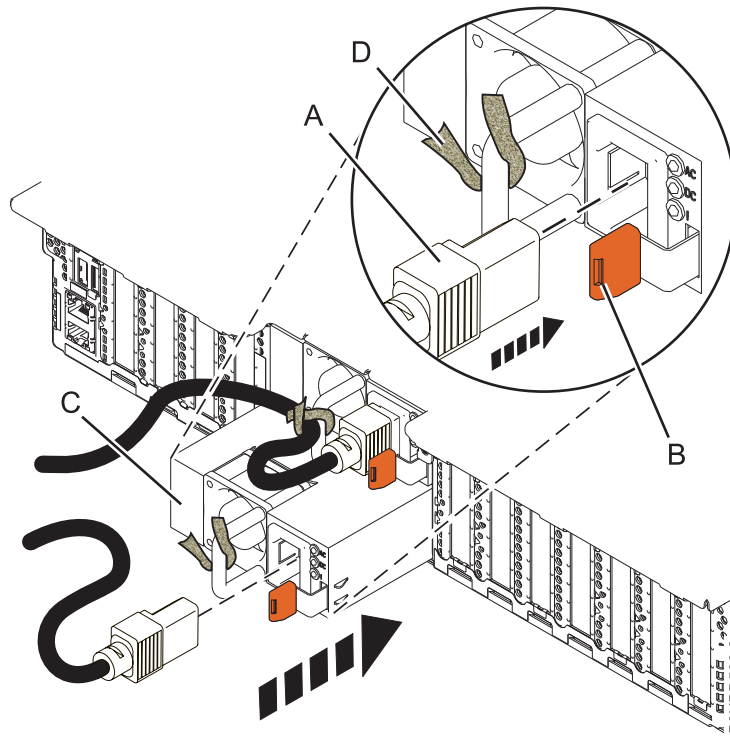

Figure 11. Replacing a power supply in the system
3. Align the power supply (C) with the bay and slide the power supply into the system until the terracotta latch (B) locks in place, as shown in Figure 11 on page 14.
4. Connect the power cord (A) to the power supply (C), as shown in Figure 11.
5. Use the hook-and-loop fastener (D) and tie the power cord to the power supply handle, as shown in Figure 11.